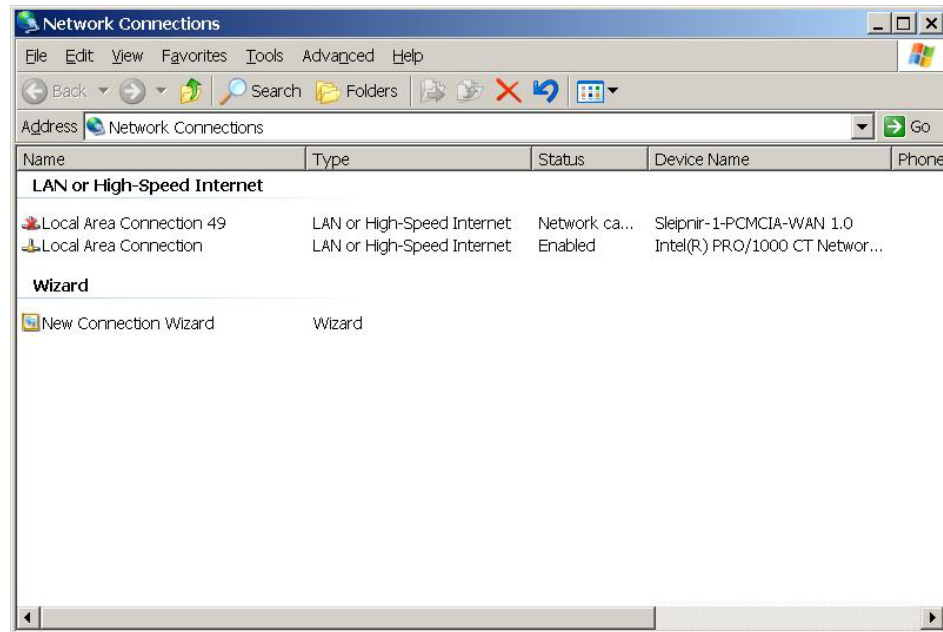

Figure 5 Local Area Connection
- Double-click the “Network Connections” or “Network and Dialup Connections” icon. See Figure 5 Local Area Connection.